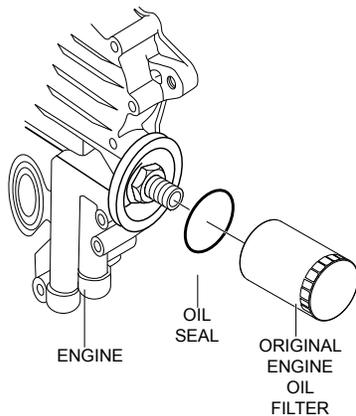

Figure 7. Engine Oil Filter Removal
2. Using your hands, turn the engine oil filter counterclockwise and remove and discard as shown in Figure 7.